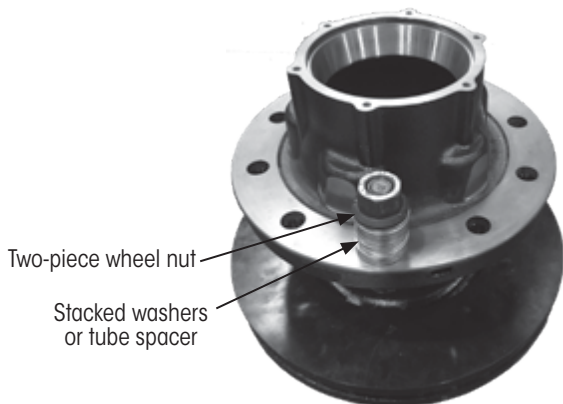

Figure 15: Stacked hardened washers and wheel nut
3. **Install** each stud into the assembly using a wheel nut and either a stack of hardened washers or a tube spacer (Figure 15).